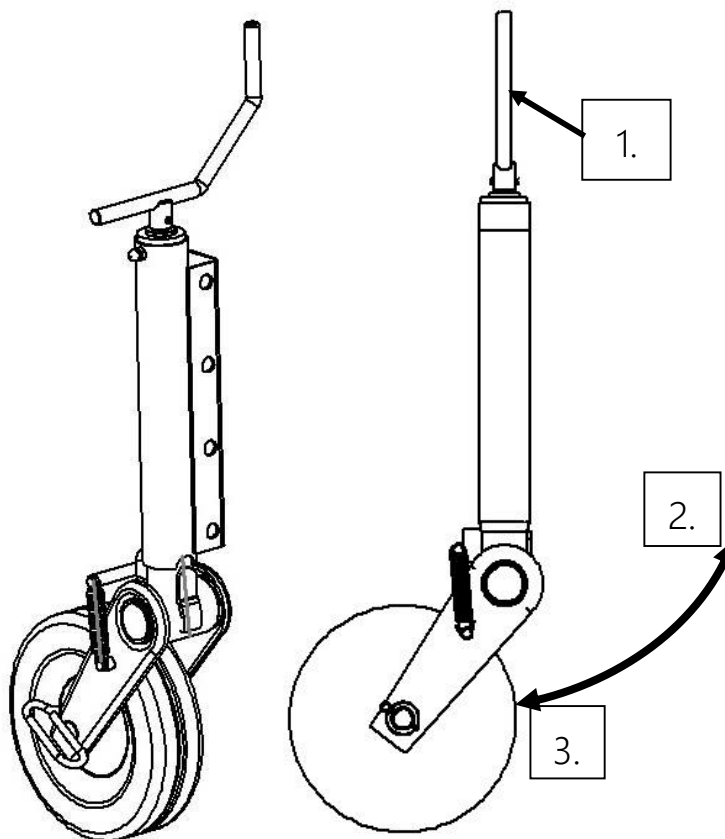

Figure 12. Adjustable support (from the left: isometry, side projection).
- in the event of improper feeder feed rate, set the adjusting lever to the proper position (fig. 12). Feed rate is changed by switching the lever from neutral position (item 2, fig. 12) – the closest holes (item A, fig. 12) correspond to the lowest speed, and the farthest - the highest speed (item B, fig. 12).